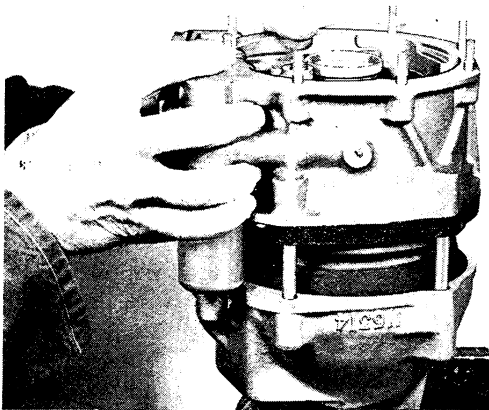

Fig. 4-40. Dismantling overdrive
3. Unscrew the nuts holding the brake ring, front and rear casing. Loosen the nuts gradually all round in order to avoid any distorted tension from the springs. Lift off the front casing and brake ring, see Fig. 4-40.